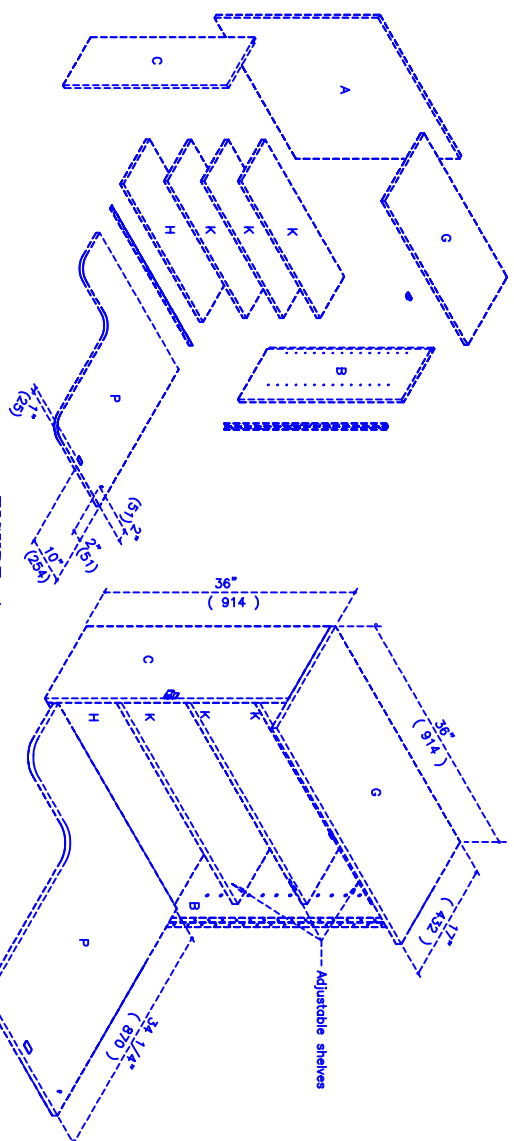

FIGURE 4
- 3) Screw the bottom piano hinge onto the end of piece P centered on P, with the hinge pin portion just inside the top edge of P (1/16") with the hinge pin portion just inside the top edge of P (1/16") with the hinge pin portion just inside the top edge of P (1/16"). Attach P to H by attaching the hinge already on P to the edge of B as shown (Fig 4) with the hinge pin protruding slightly past the outside edge of B. Ensure the unit is square, and set aside to dry.